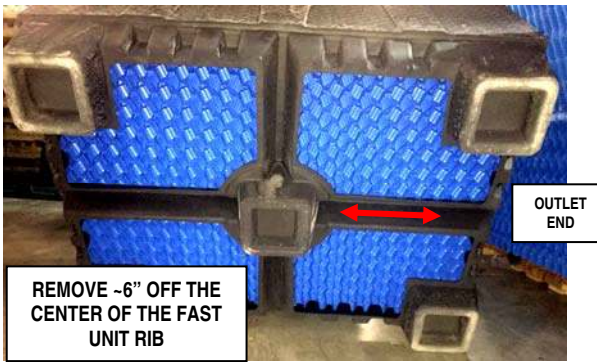

Figure 4.1
- a. Remove ~6" off the center, outlet end rib on the underside of the liner. See Figure 4.1